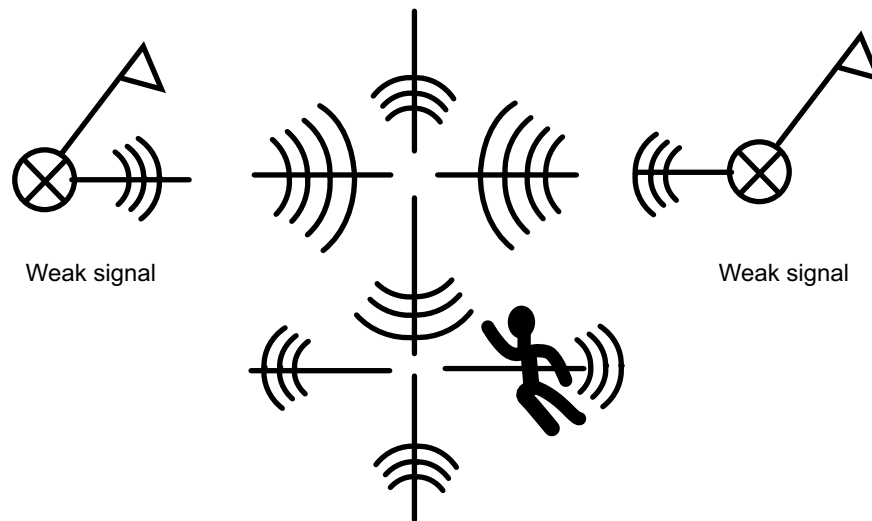

Figure 1-16. Pinpointing Location.
- Repeat this process until the exact location is found and begin probing or digging (see Figure 1-16).